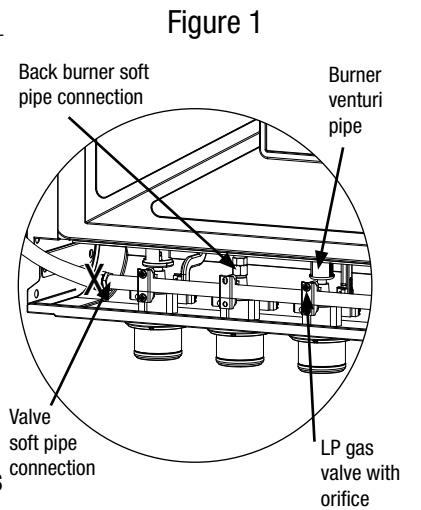

Figure 1
- Please refer to diagram for proper installation (Figures 1 and 2).
- Spoon several drops of solution, or use a squirt bottle, at all "X" locations (Figures 1, 2 and 4).